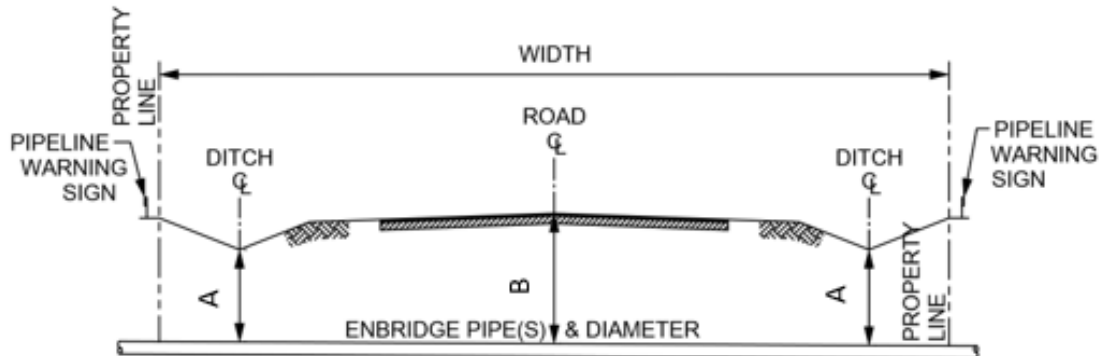

Figure 1: Road Crossing – Typical Drawing
- road crossing (see Figure 1: Road Crossing – Typical Drawing)